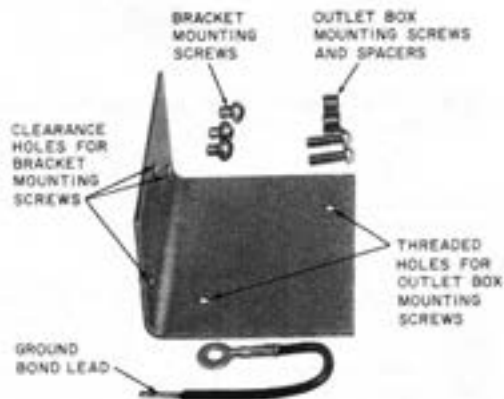
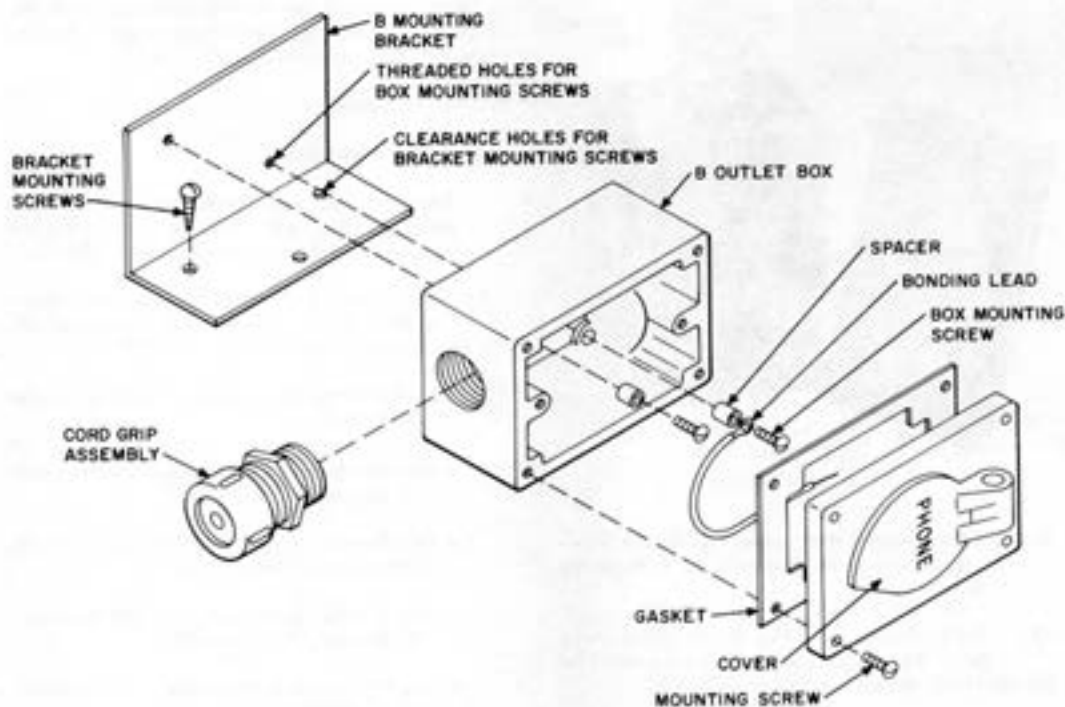

Fig. 4—B Mounting Bracket
Fig. 10—Assembly of B Weatherproof Male Jack to B Outlet Box and B Mounting Bracket
2.05 The B mounting bracket (Fig. 4) is used to mount the B outlet box on recreational vehicles. It consists of a stainless steel angle bracket with three clearance holes on one side for mounting to trailer tongue and two threaded holes on the other side for mounting the B outlet box. Included are three stainless steel thread cutting screws for mounting the bracket and two stainless steel screws with spacers for mounting the B outlet box on the B mounting bracket. A pigtail lead is included to connect between the center ground terminal of the B weatherproof male jack and one of the outlet box mounting screws to provide a ground bond to the vehicle frame (Fig. 10).
- One B mounting bracket used to mount outlet box on vehicle (Fig. 10)
attached to either end depending on existing space. The telephone installer will wire from the connecting block or the telephone set in the vehicle to the B outlet box on the trailer hitch or bumper. The bonding lead provided with the bracket must be connected as shown in Fig. 10 to provide a ground bond to the vehicle chassis.